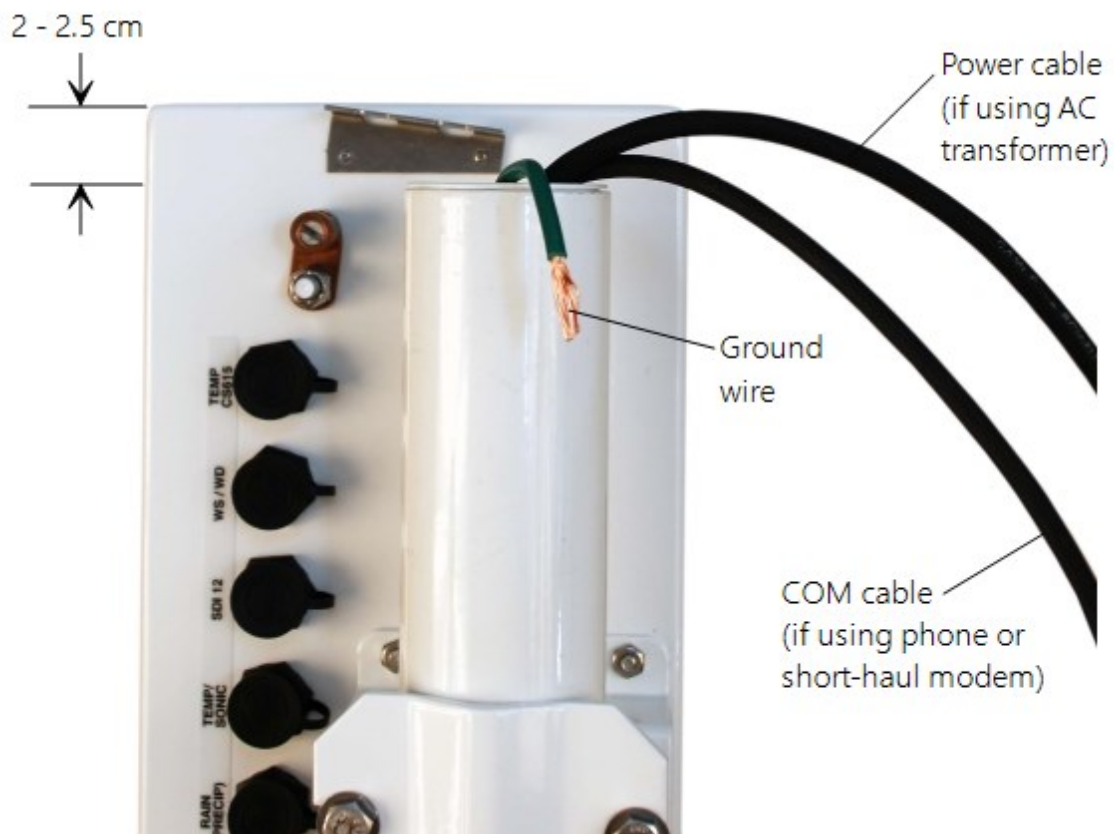

FIGURE 6-5. Enclosure spacing above pole
Mount the enclosure on the pole as shown in FIGURE 6-5 (p. 18).
4. Position the enclosure so it faces east for northern latitudes or west for southern latitudes. The top of the enclosure should be 2 to 2.5 cm (3/4 to 1 in) above the top of the pole (FIGURE 6-5 (p. 18)).